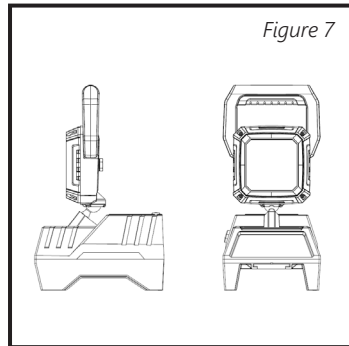

Figure 7
- The work light includes a single lighting pod; this may ship in a folded position. Expand the pod to an open position (Figure 7).